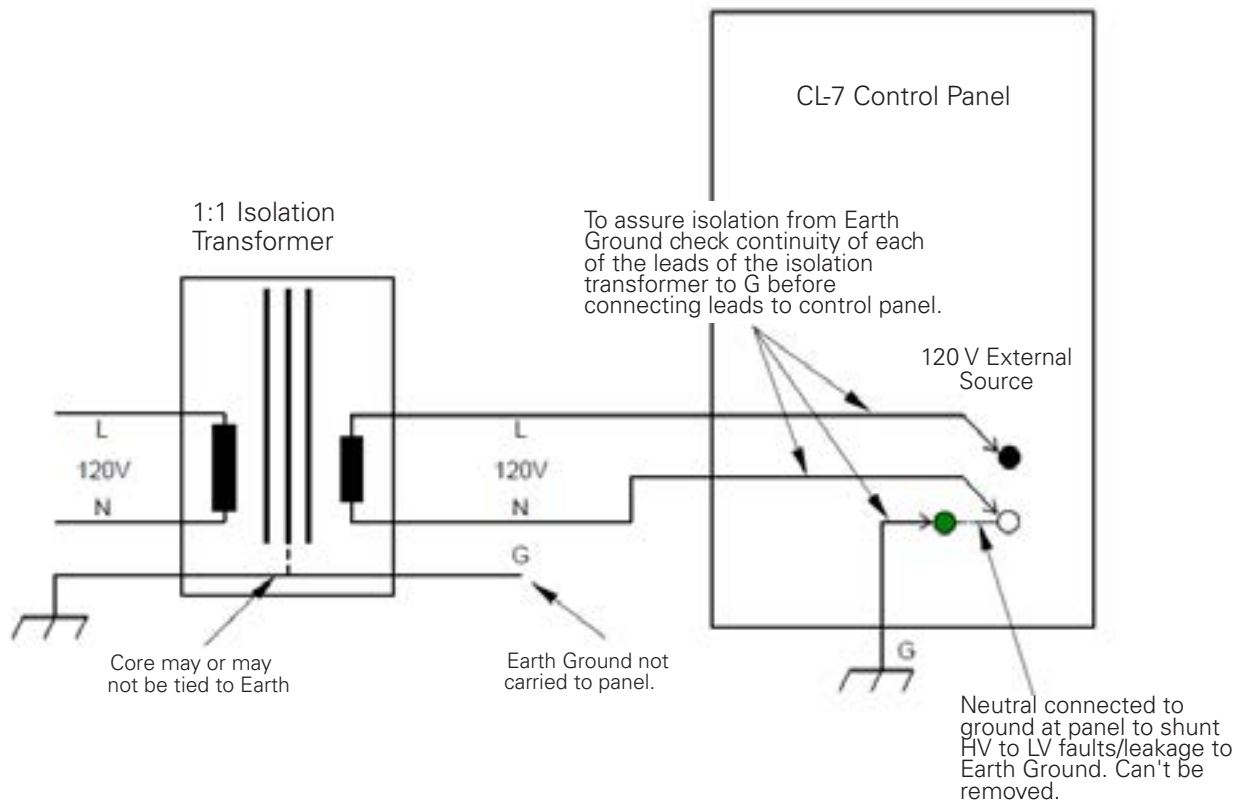

Figure 1-2. 120 Vac Application with Eaton's Cooper Power series 120 V Control - Option 1.
The lower (lineman's) section of the front panel contains components and features used to operate the voltage regulator. This section is similar to that of other controls in Eaton's Cooper Power series CL line. Refer to Figure 1-2.
Since the control is configured for 120 Vac, a 1:1 isolation transformer must be used to isolate the supply voltage. This isolation transformer must isolate both the neutral and line on the secondary side. Also, the neutral and ground on the secondary side should not be bonded or connected. To check isolation from earth ground, check the continuity of each lead on the isolation transformer with respect to ground (G). Check this before connecting the leads to the control panel. See Figure 1-2.